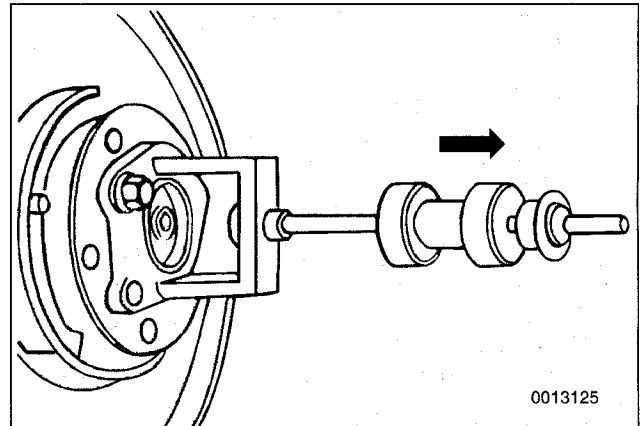

Fig. 9. Drive flange being removed from bearing assembly using impact style puller.
5. Remove drive flange from bearing assembly. See Fig. 9.